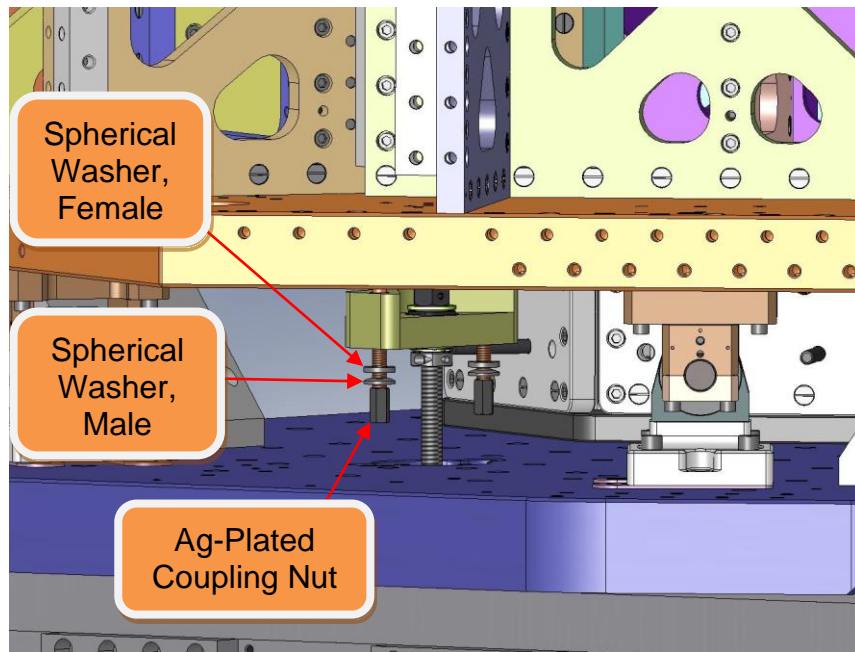

Figure 4.99. Hardware for the bottom ends of the Pull-Down Rods.
- Place a spherical washer set (McMaster-Carr #91944A470) on each **Pull-Down Rod**, followed by a custom *silver-plated* 1/2"-20 coupling nut (D0901023), as shown in Figure 4.99.